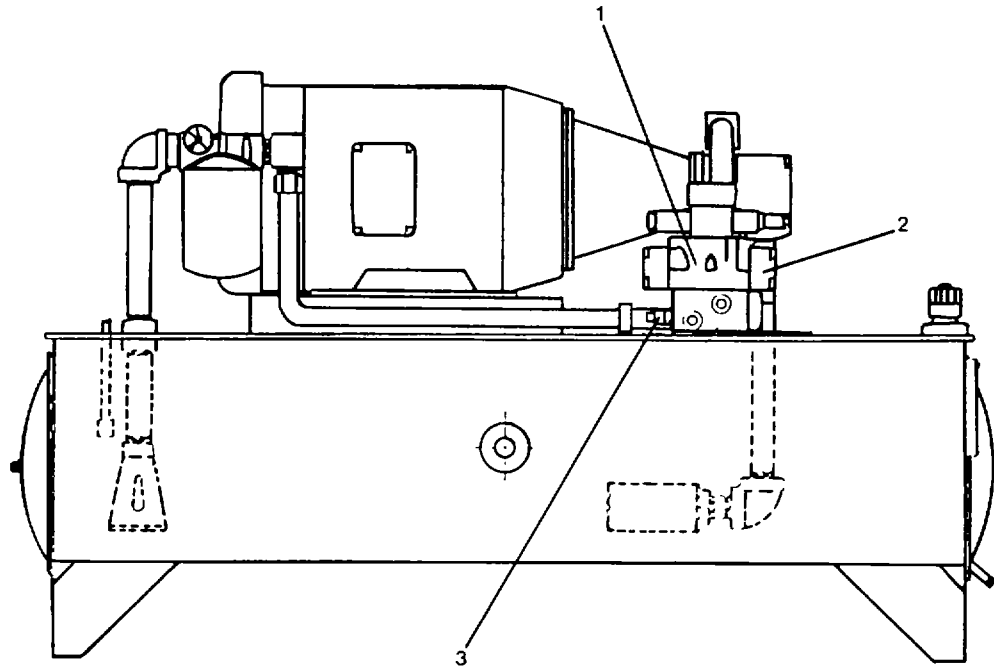

FIGURE 2-4. Hydraulic Power Pack Assembly.
SERVICE (FIGURE 2-4).
- (3) Push motor START button (1, FIGURE 2-3) and check if motor running indicator (2) is lit. Observe pressure gauge (2, FIGURE 2-4) for an increase in pressure build-up.
- (5) Bleed off trapped air in system by momentarily turning relief valve (3, FIGURE 2-4) counterclockwise until hydraulic fluid begins to appear.
- (6) Push motor START button on stern control box.
- (7) Set relief valve (3) clockwise for 2,900 psi while observing pressure gauge (2).